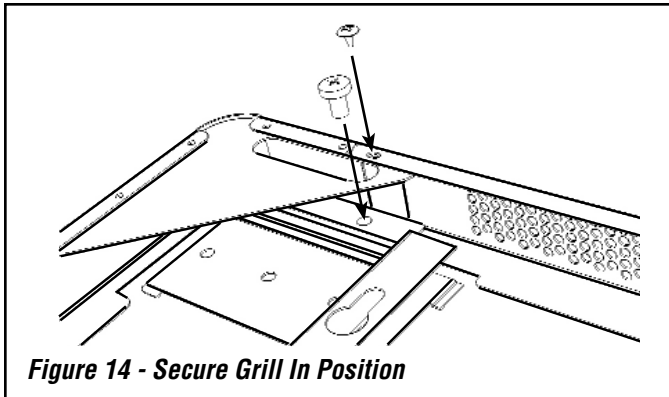

Figure 14 - Secure Grill In Position
5. Secure the grill in position using two M6 screws and two no. 8 self tapping screws as shown in **Figure 14**.